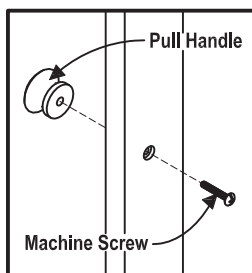

Figure 5
Assemble Pull Handles to Door (M) and (N) with Machine Screws. (see Figure 5)